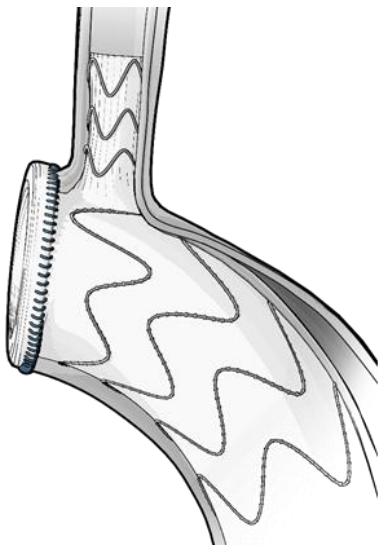

Figure 14. Distal anastomosis of Arcevo™ LSA implant by suturing collar to thoracic aorta
11.5.1 Once the Arcevo™ LSA delivery system has been removed, the collar must be sutured to the native aorta. Complete the anastomosis of the Arcevo™ LSA collar to the transected aorta using sterile surgical suture and standard surgical techniques (**Figure 14**).